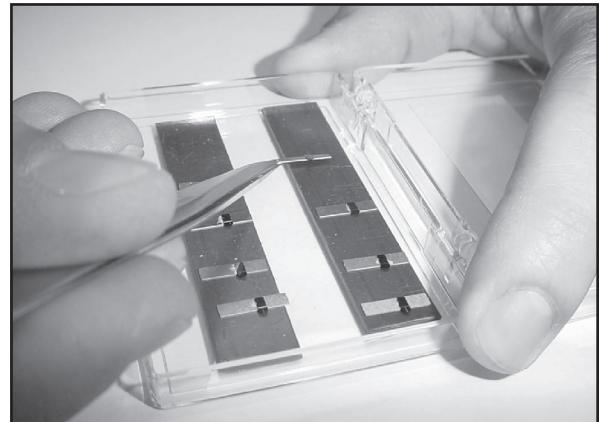

Figure 3.16: Lift the Probe, Cantilever side first
- Grasp the metal plate, and carefully rotate the tweezers so the cantilever edge of the metal plate lifts up off the magnetic strip first as shown in Figure 3.16.